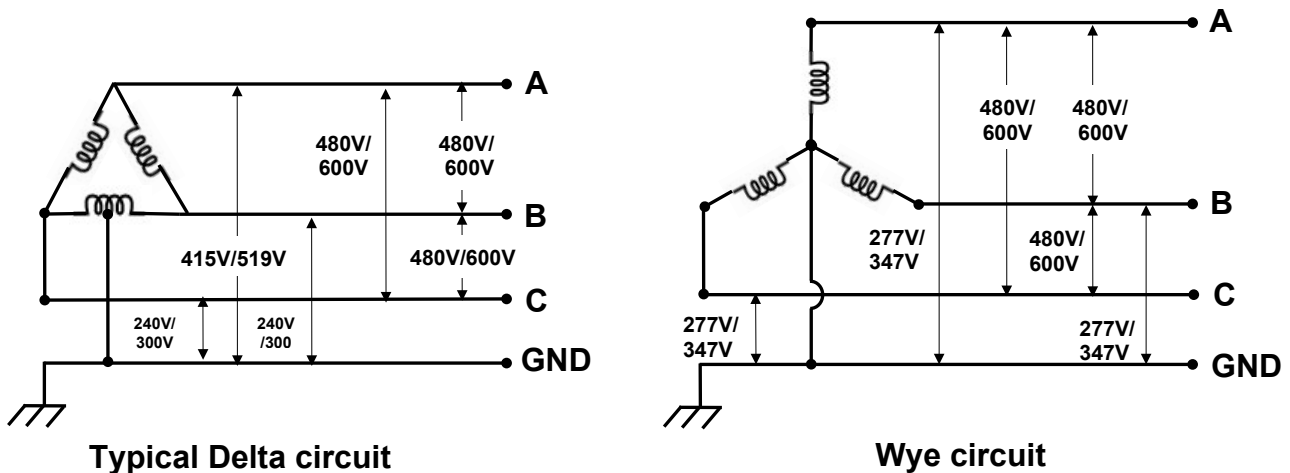

Figure 25: AC input wiring diagrams
- The REVOLUTION chargers require a 480 VAC 3Ø, three-wire Wye or Delta electrical supply with a separate ground (Figure 25).